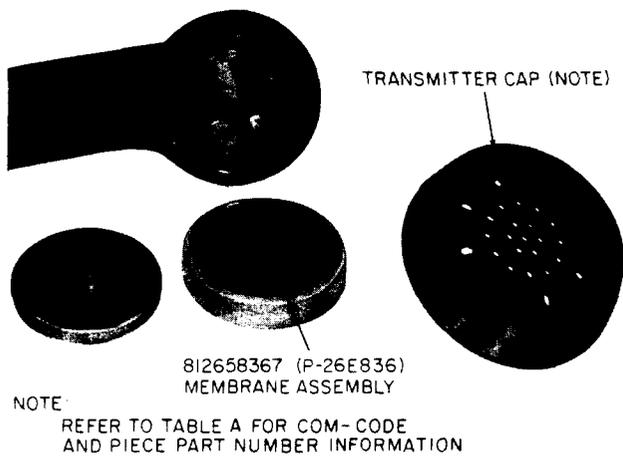

Fig. 4—Moistureproof Transmitter Assembly
2.03 A moistureproof membrane assembly (Fig. 4), which fits over the transmitter, may be installed in any G-series handset, except those with cemented receiver and transmitter caps. When this moistureproof membrane is used, it is necessary to install a special transmitter cap, Table A.
\* These handsets are equipped with a moistureproof transmitter assembly (Fig. 4).